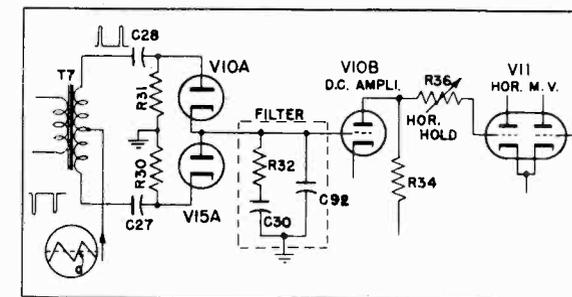

Fig. 5. Horizontal M.V. & Sync Circuit
5. HORIZONTAL MULTIVIBRATOR AND AFC SYNC (See Figure 5)—
The AFC voltage is developed by the diode-connected triodes V10A and V15A by mixing the horizontal sync pulse at the secondary of transformer T7 with a sawtooth waveform derived at the output of the sweep amplifier. When the sync pulse occurs at the time "a" shown in the sawtooth waveform drawing in Figure 5, no voltage will be developed at the output of the filter. However if the multivibrator runs faster or slower so that the pulse falls at a point other than at "a," a positive or negative voltage will appear at the filter, which will be amplified by the d-c amplifier V10B and then